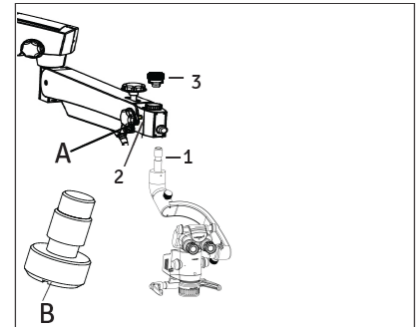

Fig. 39
4. Retrieve the inclined coupler with magnichanger from the packing and follow as below referring Fig.39.
- Install the coupling to the suspension arm by sliding the guiding shaft (1) into the suspension arm.
- Lock the inclined coupling with the threaded plug (3).
**CAUTION:** Make sure that safety screw (B) must tight in place at position (2) to avoid sudden falling of the coupling. Safety Screw always tied with the Carrier arm locking knob A. Fig. 39